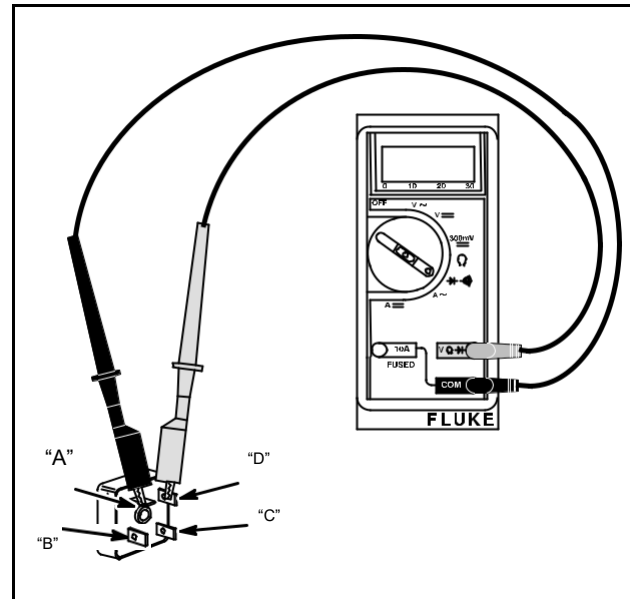

Fig. 24
4. Using test leads, place RED test lead and BLACK test lead on rectifier terminals in sequence shown in Fig. 24, and TABLE NO. 8, Specifications.